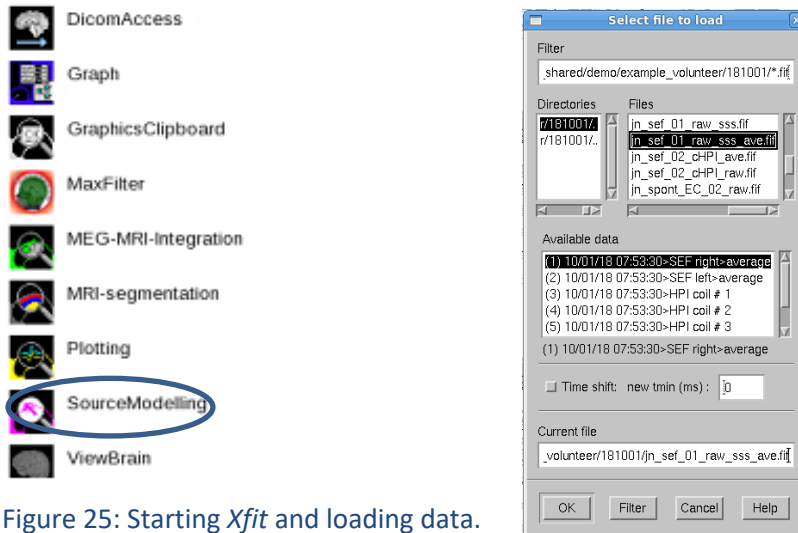

Figure 25: Starting *Xfit* and loading data.
- Select **Applications -> Neuromag toolbox -> SourceModelling** (Figure 25).